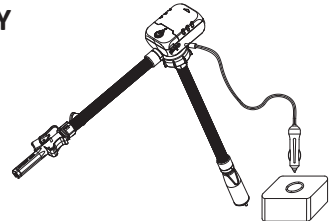

Fig.8
1. Insert the Car Cigarette lighter adapter plug into the Car Cigarette lighter output terminal as Fig.8